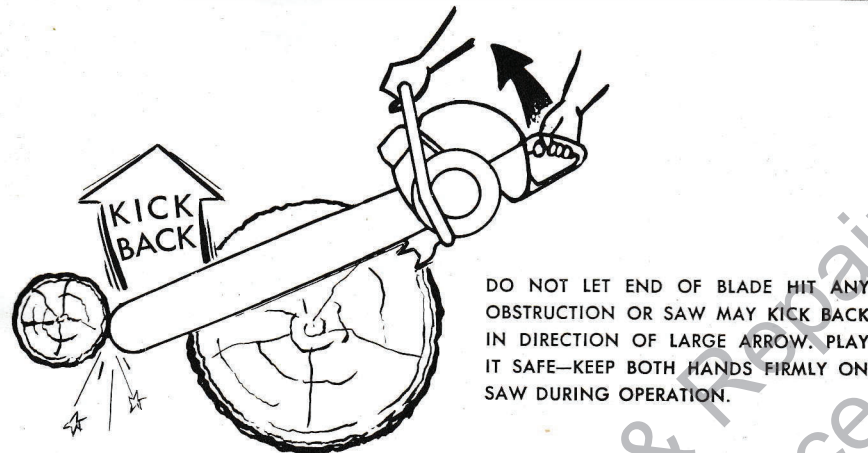

Figure 3—Safe Cutting Instructions
(1) BE CAUTIOUS. Always wear a safety helmet in the woods. Wear trim-fitting clothing. Always work in pairs, so that help will be available if needed.
(2) HANDLE FUEL SAFELY. Use approved fuel containers. When refueling find a clear or bare spot of ground before pouring. Move at least ten feet away from refueling spot, wipe saw down before starting the engine.
(3) ALWAYS KEEP BOTH HANDS FIRMLY ON SAW; one on the handle bar, the other on the pistol grip. Stand with your weight on both feet for positive control at all times. Even if the saw kicks back unexpectedly (See Figure 3) because the blade (a) hits a branch or other obstruction, (b) gets caught in a cut, or (c) is inserted incorrectly into a previous cut, you will not be in danger.
(4) STOP ENGINE BETWEEN CUTS. Play it safe — never carry a running saw from tree to tree. Always carry the saw with the blade to the rear, so the chain will not become snagged in the underbrush. Always stop the engine before working on the saw.